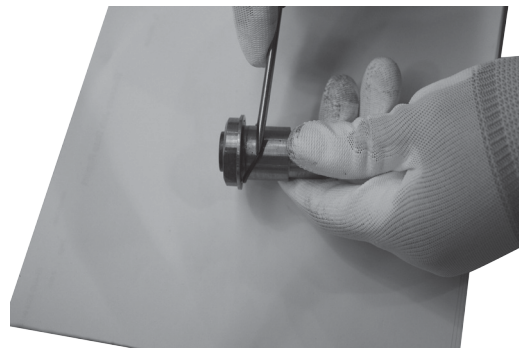

Figure 6. Remove O-ring (step 7)
7. The O-ring (key 65) is on the gland groove. Remove O-ring as shown in Figure 6. The O-ring should be discarded and a new one used when reassembling.